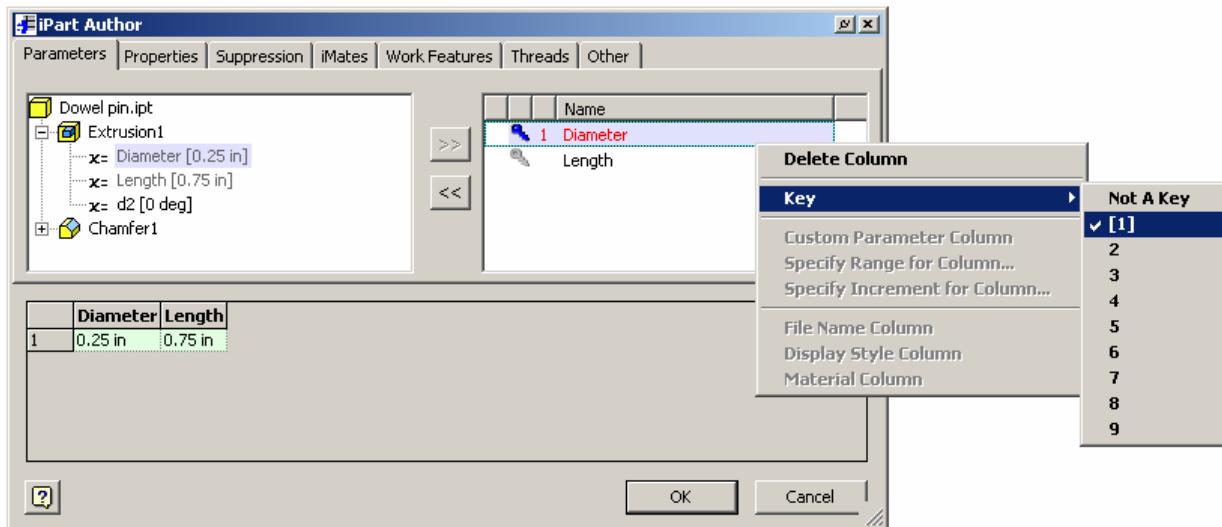

Figure 4: Setting key values
- Select critical parameters as keys for the iPart, as shown in the top portion of Figure 4. Right-click on a parameter name, select Key from the context menu that appears, and then select its priority.